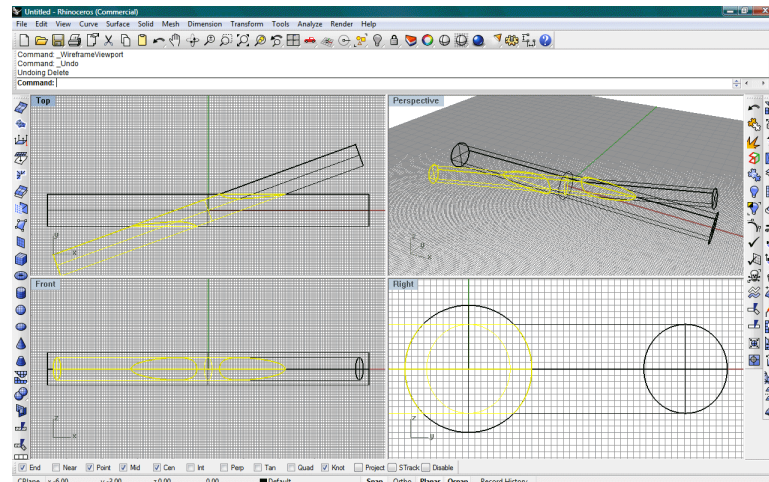

Figure 92: In the Top view, the highlighted section of the smaller cylinder must be deleted to create the branching.
44. In the **Top** view, select the **lower-left** and the **middle** sections of the **smaller** cylinder (Figure 92) and **delete** them. This leaves only one section (upper right) of the smaller cylinder.